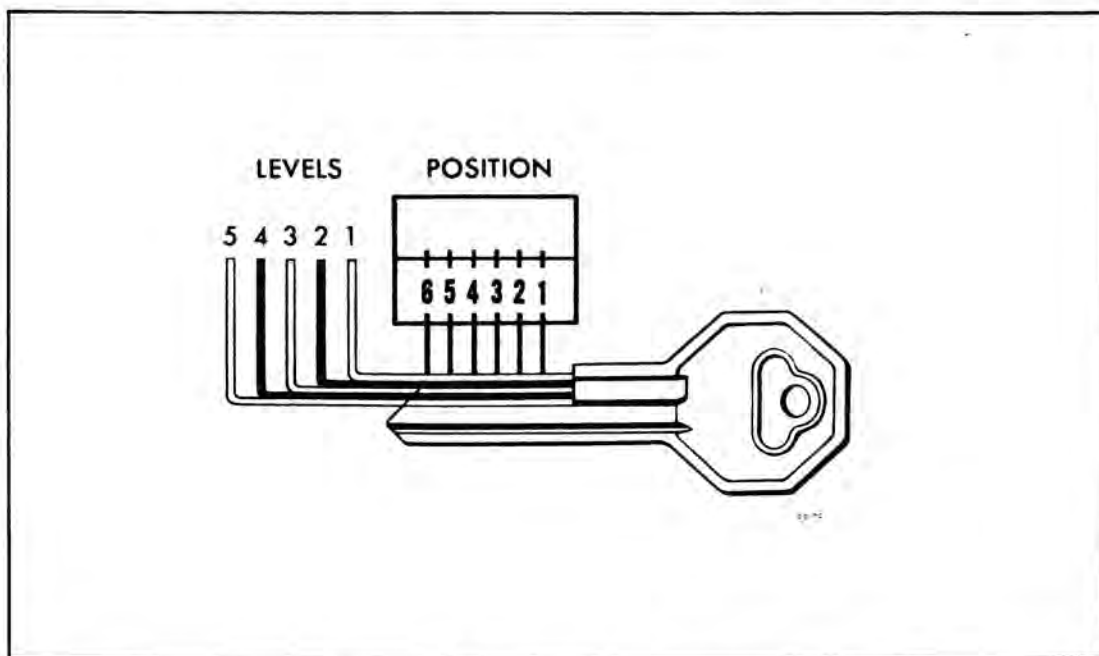

Figure 00-6—Key Code Diagram
key head. After the code has been recorded by the owner to facilitate replacements or duplications of a key, the plugs should be knocked out of the key heads. If key code numbers are not available from records or from the "knock-out" plug, the code can be determined by laying the key on the diagram in Fig. 00-6, or from the door and rear compartment lock assemblies themselves.
For "C" type lock cylinders assemblies, the key code number is stamped on the side of the door lock cylinder case; for "D" type lock cylinder assemblies, the number is stamped on the side of the rear compartment lock cylinder. From these numbers the lock combination can be determined by use of a code list for cutting new keys or coding a replacement service lock cylinder assembly. Ignition, glove compartment and console lock cylinders coded by the car division do not have key code numbers stamped on them; therefore, codes may be determined either from a door or rear compartment lock cylinder of the same car which will have the same lock tumblers, or from the key code diagram. See Figure 00-6.
1. Lay the key on the Key Code Diagram, Figure 00-6, with the key outlined by the diagram as accurately as possible.